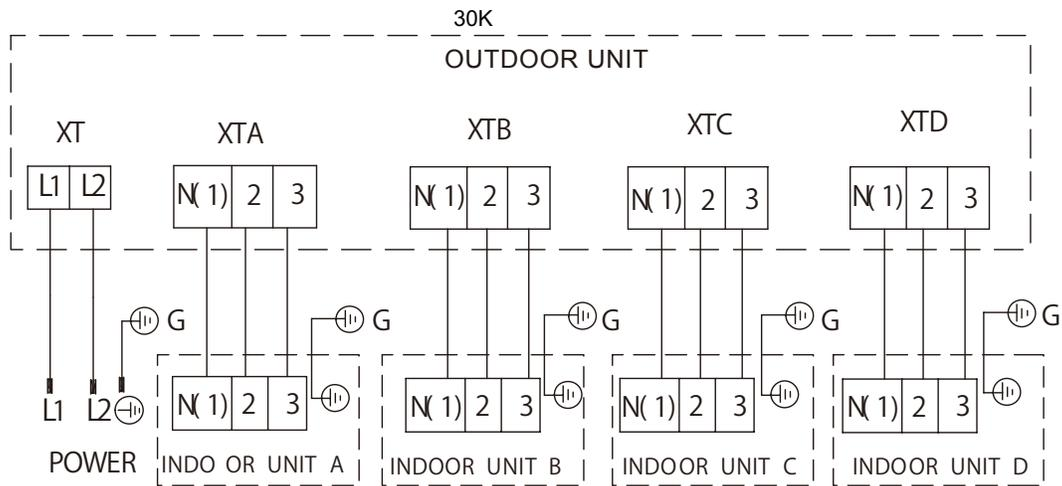

Fig.9
- b. The joints of the indoor unit should be wrapped with the insulating material and no gap is allowed on the joint of the indoor unit, as shown in Fig.9.